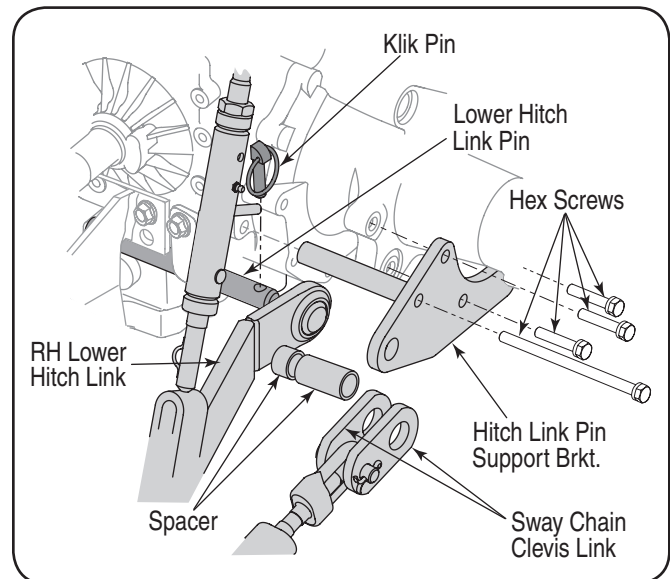
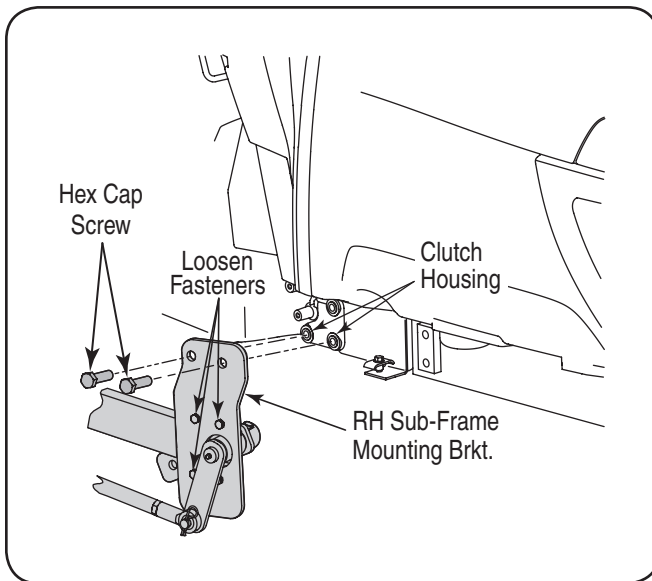
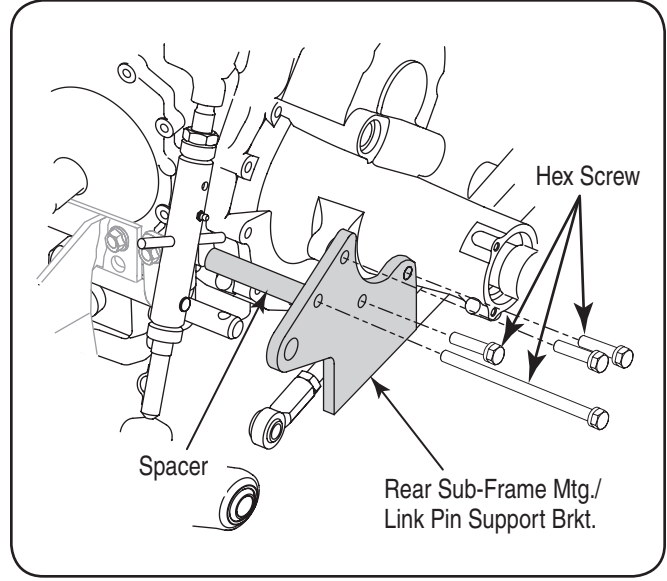

Figure 4
Figure 5
Figure 6
- Remove the klik pin from the end of lower hitch link pin. While supporting the sway chain clevis links, slide the link pin inward (to the left) to disengage the pin from the two clevis links and the hitch link pin support bracket. See Figure 4.
- Continue to slide the hitch link pin to the left to remove the spacers and disengage the RH lower hitch link. See Figure 4.
- Position the RH sub-frame assembly (1) along the right side of the tractor.
- Loosen, but do not remove the four hex flange lock nuts and screws securing the sub-frame mounting bracket to the plate on the front of the sub-frame rail. Refer to Figure 5.
- Locate the three holes in a triangular pattern on the tractor's clutch housing. Remove the protective plugs from the lower two holes. Refer to Figure 5.
- Raise the front of the RH sub-frame assembly and align its two upper holes with the two lower holes of the clutch housing. Insert the two hex cap screws(4) and thread into the clutch housing. Do not fully tighten now. Refer to Figure 5.
- **ONLY If the RH Loader Mount is installed.** Remove the two lower screws fastening the rear of the loader mount to the tractor clutch housing. Align the upper holes of the RH loader adapter bracket (installed on RH sub-frame assembly earlier) with the loader mount holes. Insert the longer hex screws(5) and thread into the clutch housing. Do not fully tighten now. Scrap (or store for possible future use) the screws removed from the loader mount.
- Lift the rear of the RH sub-frame assembly and align the three holes in the rear sub-frame mtg./link pin support bracket with the three holes in the RH rear axle housing. Insert the shorter hex screws removed earlier and thread partially into the axle housing holes. Do not tighten the screws now. See Figure 6.
- Place a 4.95" long spacer (15) between the rear sub-frame mtg./link pin support bracket and the transmission housing, and align with the holes in both as shown in Figure 6. Insert the long hex screw removed earlier through the bracket and spacer and thread into the transmission housing, but do not fully tighten.
- To install the LH sub-frame assembly (2), refer to Figures 4 through 7 and follow the instructions for installing the RH sub-frame, adapting the instructions to the left side of the tractor.